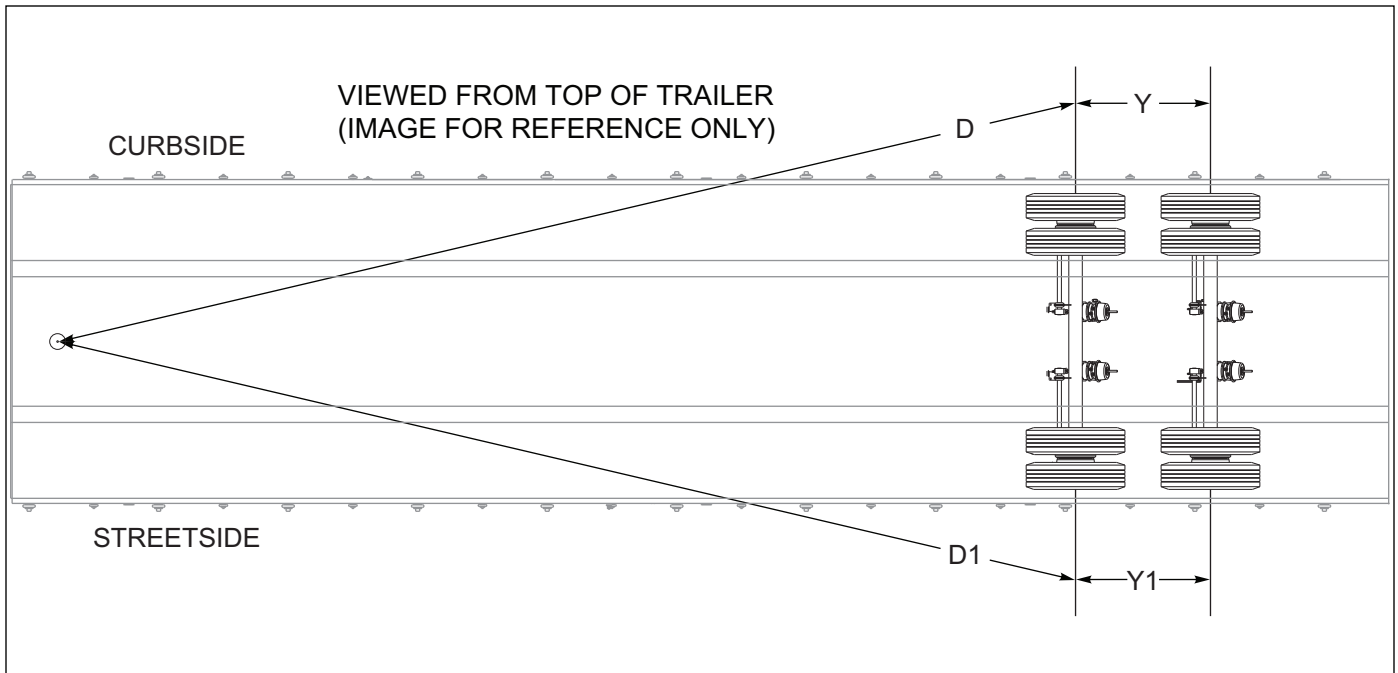

Figure 4-9: Checking Axle Alignment
3. Move the axle gauge and place against the back side of the axle. If either of the points of double point end fails to touch the axle surface, a bent spindle is evident. A point gap of .015" or more is considered excessive tire "toe" and the axle must be replaced (See Figure 4-9.)
5. Measure **Curbside (D)** from the plumb bob to the 1st axle center. Measure **Streetside (D1)** from the plumb bob to the 1st axle center. **Curbside (D)** should be about 1/8 in (3.18 mm) shorter than **Streetside (D1)**, See Figure 4-9.
2. Measure from 1st axle center to the trailer 2nd axle center on the curbside then the streetside. Measurements should be the same. Use (Y) and (Y1) as reference, See Figure 4-9.
5. Measure **Curbside (D)** from the plumb bob to the 1st axle center. Measure **Streetside (D1)** from the plumb bob to the 1st axle center. **Curbside (D)** should be about 1/8 inch (3.175 mm) shorter than **Streetside (D1)**. *See Figure 4-9.*
2. Measure from 1st axle center to the trailer 2nd axle center on the curbside then the streetside. Measurements should be the same. Use **(Y)** and **(Y1)** as reference. *See Figure 4-9.*